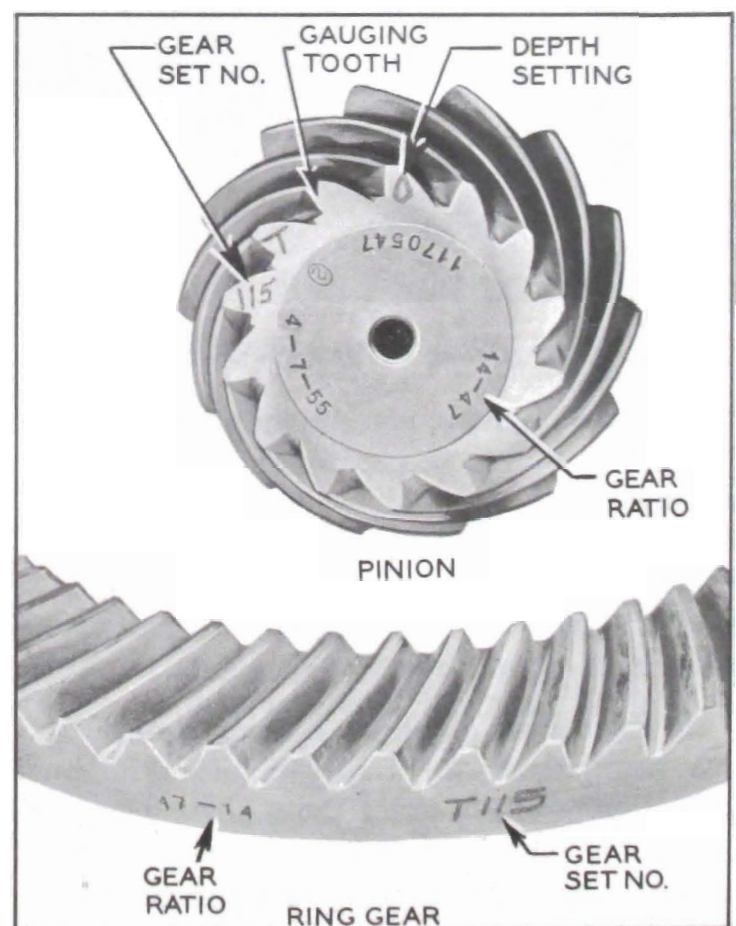

Figure 6-27—Ring and Pinion Gear Set Markings
rear face of gear to aid in keeping matched parts together. See Figure 6-27. Parts having different serial numbers must never be used together.
This variation in thousandths of an inch over or under the "nominal" setting is etched on the small end of a pinion tooth. See figure 6-27. When a pinion is marked "+" (plus) it means that the rear face of the pinion when pressed in the carrier must be at the "nominal" distance from the centerline of the side bearing pedestals *plus* the amount indicated on the pinion tooth. When a pinion is marked "-" (minus) it means that it must be located at the "nominal" distance *minus* the amount indicated on the pinion tooth.
7. Rotate the pinion until the blank tooth between the matching number and the pinion setting mark is slightly counterclockwise of top center (at about 11 o'clock). This tooth is called the gauging tooth (Fig. 6-27) because it is used for locating and gauging during production and should therefore be used for gauging in service.
3. Check matching numbers on ring gear and pinion to make sure the two parts have not been mixed with another gear set. See figure 6-27.